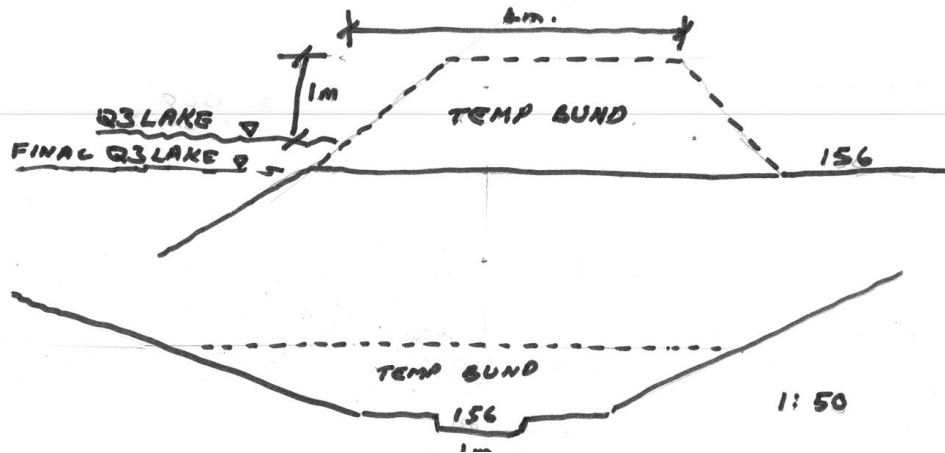

Figure 4 Long & Cross Section of Temporary Bund
- The outline of the earthworks shall be marked on the ground prior to site works starting by Abbeydale BEC. It shall then be the Contractor's responsibility to maintain sufficient ground markers and slope profiles throughout the works including the agreed boundary of his working area as shown on Fig 4.